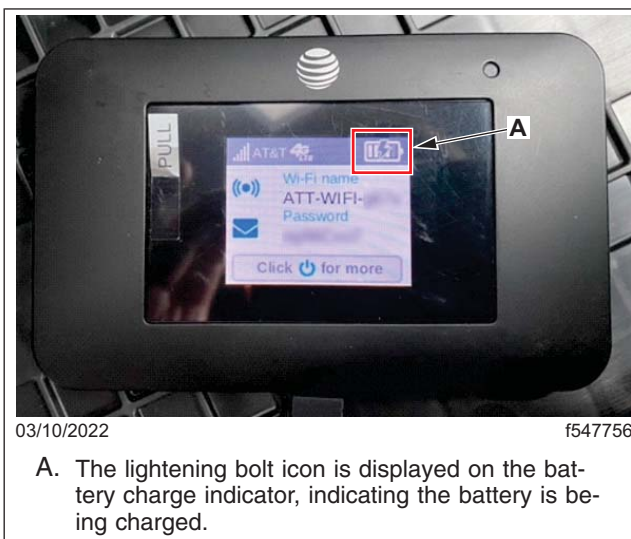

Fig. 22, Lightning Bolt Icon Displayed on the Battery Charge Indicator
21. Verify the battery charge indicator in the upper-right side of the UE2 Wi-Fi hotspot device screen has a lightning bolt charging icon. See Fig. 22.